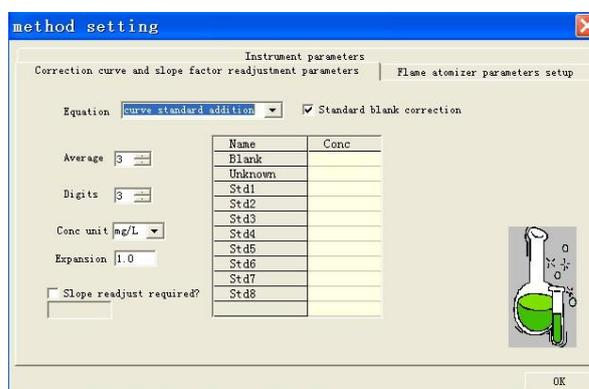

Figure 5-31
5. Press “Settings” to enter the “Correction curve and slope factor readjustment parameters” screen, as shown in Figure 5-31.